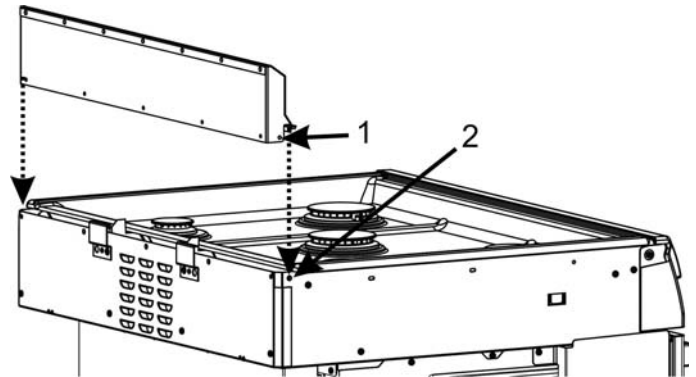

Figure 7: Low Backguard placement
7. Lower the Low Backguard into place, aligning the holes at 1 with the holes at 2 on both sides of the range. See Figure 7.